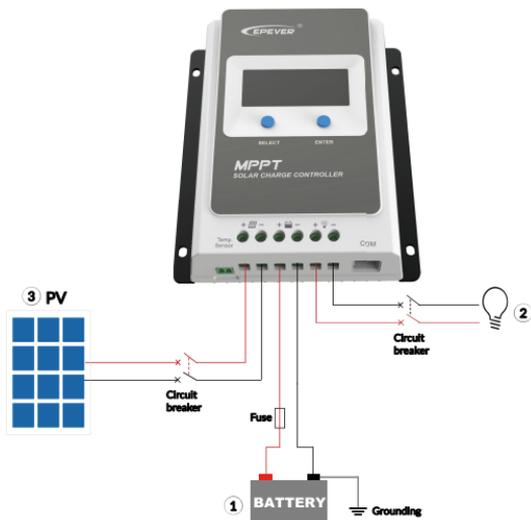

Figure 2-2 Schematic Wiring Diagram
Step 2: Connect the system in the order of ①battery > ②load > ③PV array by the following Figure 2-2," Schematic Wiring Diagram," and disconnect the system in the reverse order.